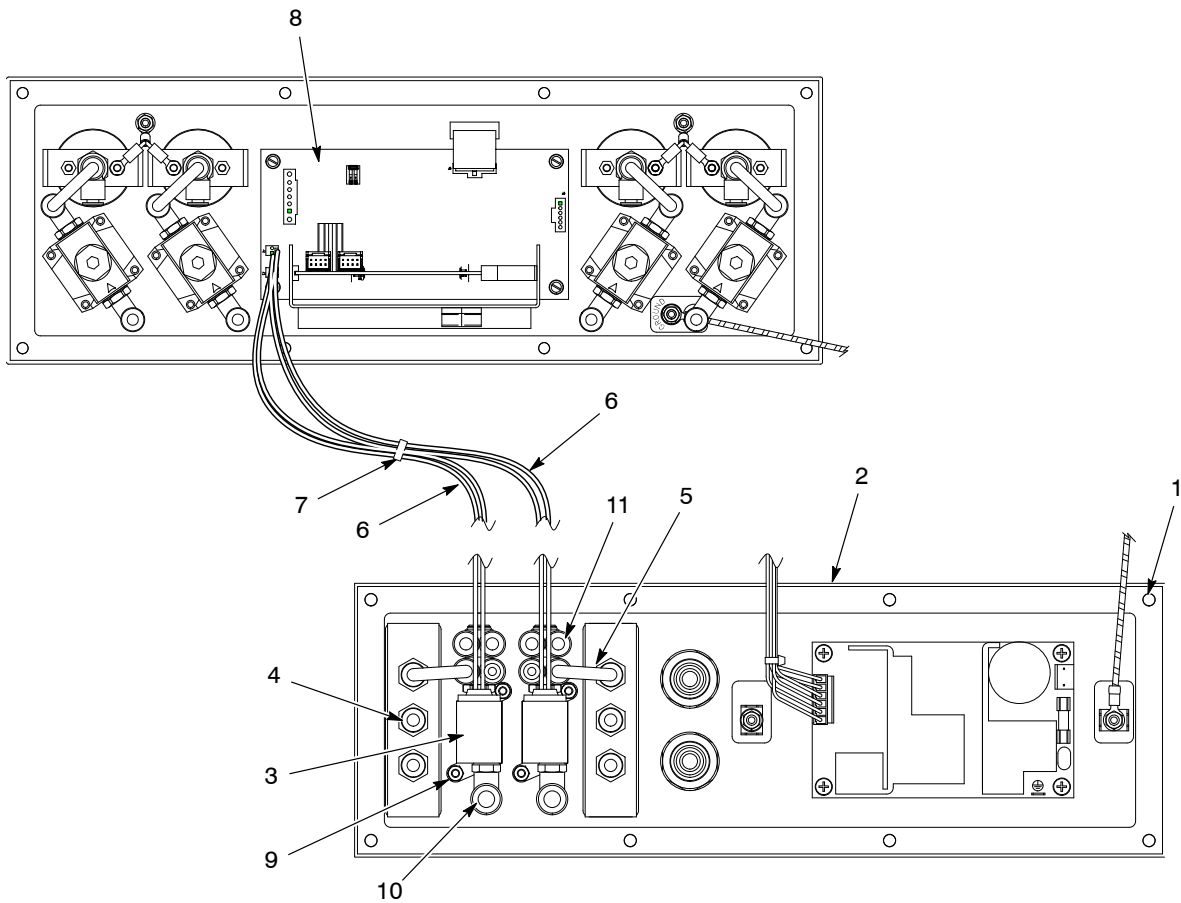

Figure 6-3 Solenoid Replacement
1. See Figure 6-3. Remove the eight screws (1) securing the rear panel (2) to the cabinet.
2. Lay the rear panel flat. The two solenoids (3) are located between the manifolds (4) on the left-hand side of the rear panel.
3. Remove the air tubing connecting to the elbow (10).
4. Remove the tubing (5) connecting the gun air line to the solenoid.
5. Follow the solenoid wire (6) back into the controller cabinet and snip the ties (7) that hold the two wires together.
6. Disconnect the appropriate wire from the interface board (8) mounted on the front panel.
7. Remove the two nuts and two washers (9) securing the solenoid to the rear panel.
8. Remove the elbow and the connector (11) from the old solenoid and install them on the new solenoid.